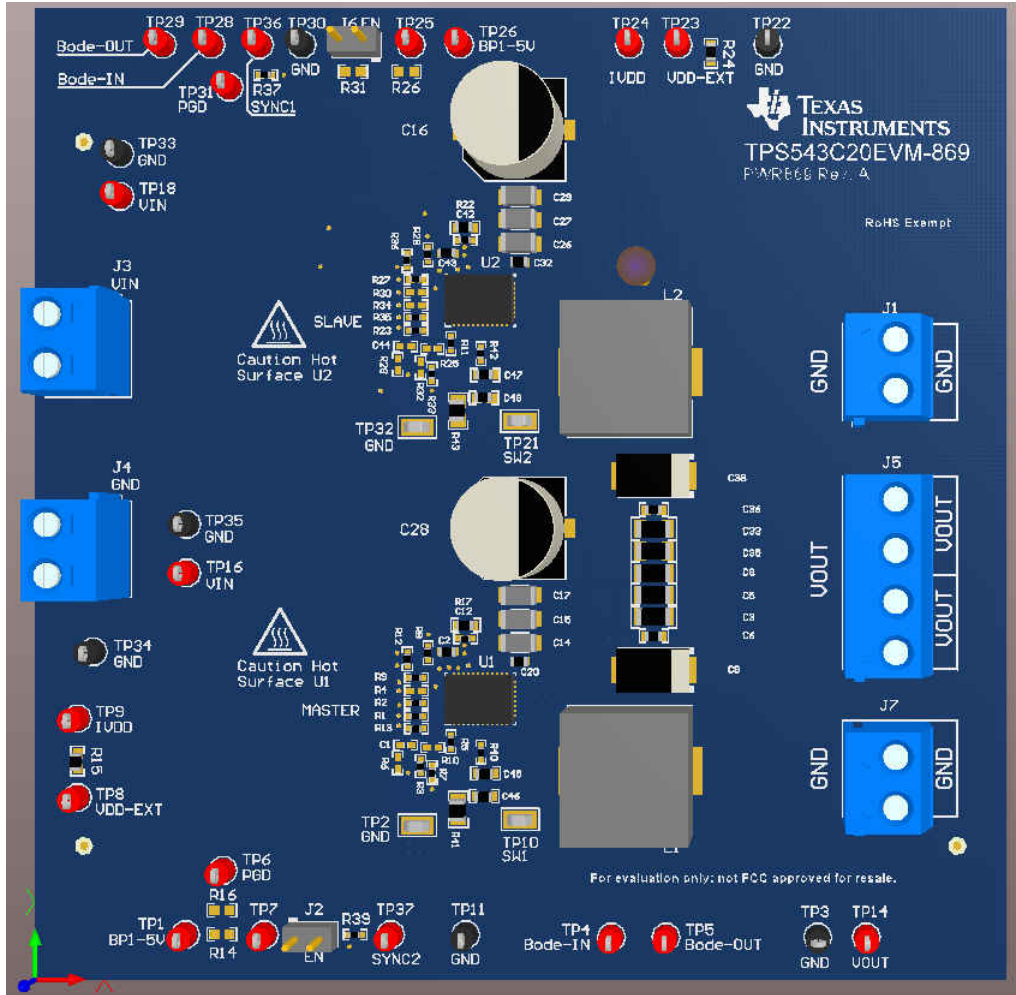

Figure 6-1. TPS543C20EVM-869 Overview
1. Connect the electronic load (+) to J5 and electronic load (-) to J1 and J7 (Figure 6-1).
4. Connect input power supply (+) to J3 and input power supply (-) to J4 (Figure 6-1).